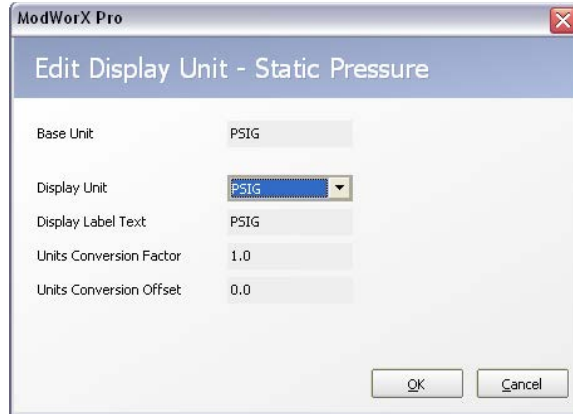

Figure 6.8
- a. Click *Edit*. The Edit Display Unit dialog will appear (Figure 6.8, page 74). The base unit is the unit in which the Scanner measures static pressure from the sensor.